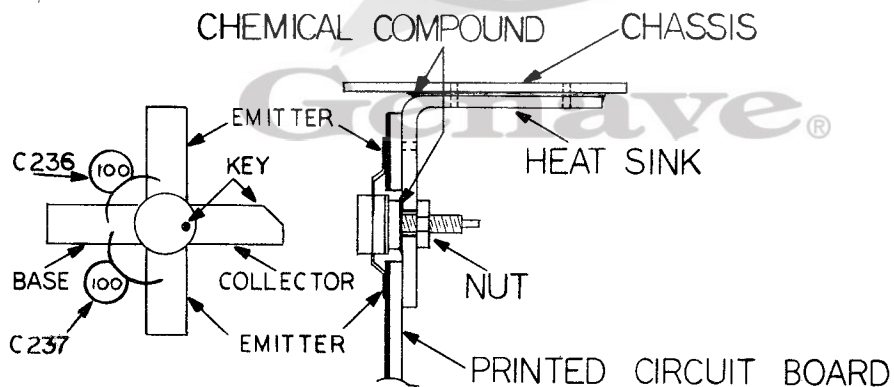

Figure 4-6-4
2. Remove the two (2) bypass capacitors from the emitter and base leads.
5. Insert the transistor from the bottom of the board and use a #8-32 nut to secure the transistor in place. Be sure that the transistor is properly aligned. See Figure 4-6-4.
6. Bend the four tabs of the transistor so that they mount flat against the foil of the circuit board. Solder all four (4) leads.
7. Resolder the two (2) bypass capacitors to the base and emitter leads, keeping the capacitor leads as close to the board as possible.